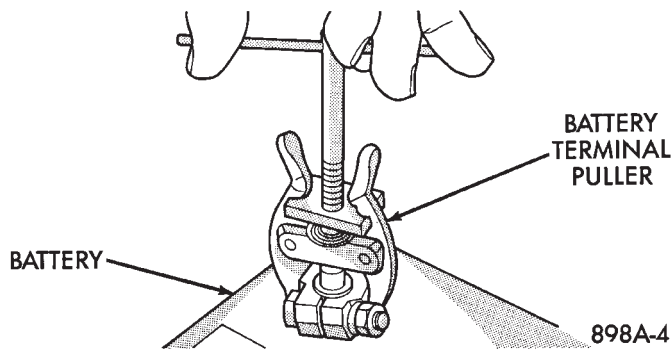

Fig. 14 Disconnect Negative Battery Cable
CAUTION: Disconnect the battery NEGATIVE cable first (Fig. 14) before charging battery to avoid damage to electrical systems. Do not exceed 16.0 volts while charging battery. Refer to the instructions supplied with charging equipment
(3) Disconnect negative battery cable (Fig. 14).